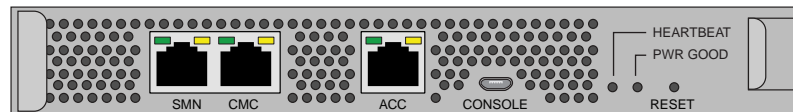

Figure 1-6 UV CMC Connection Faceplate Example
- A micro-USB serial cable connection to the “Console” port (see Figure 1-6) on the CMC (see note below). See also “Serial Console Hardware Requirements” on page 9.
Note: Both options require the use of the CMC's serial port, refer to Figure 1-6 on page 8.